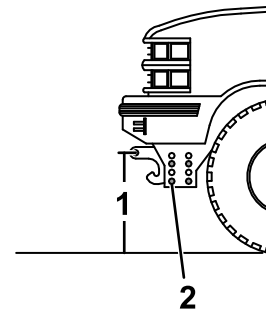

Figure 33
1. Measure the distance from the ground to the coupler spring-pin holes on the undercarriage pushbeam (Figure 33). The measurement should match the height listed for your plow in Specifications (page 23).
2. If the pushbeam is not at the correct height, remove the fasteners securing the pushbeam to the undercarriage (Figure 33).